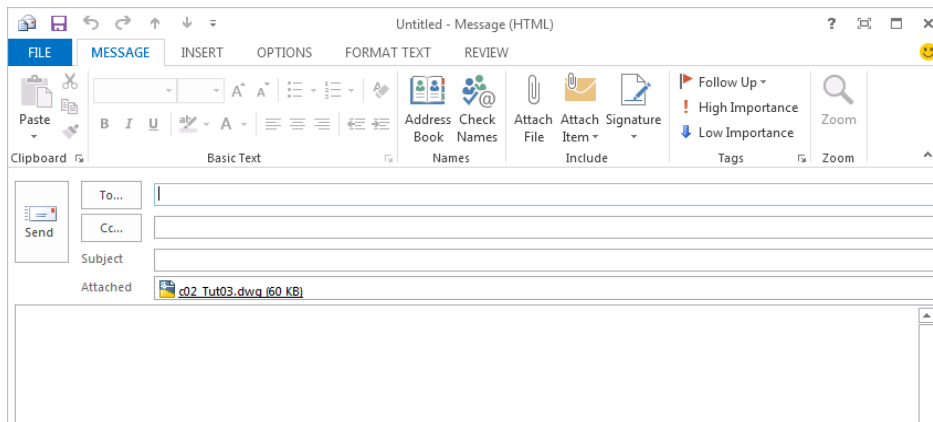

Figure 2-34 Partial view of the Microsoft Outlook window
1. Choose **Publish > Email** option from the Application Menu, the **Microsoft Outlook** window will open, refer to Figure 2-34.